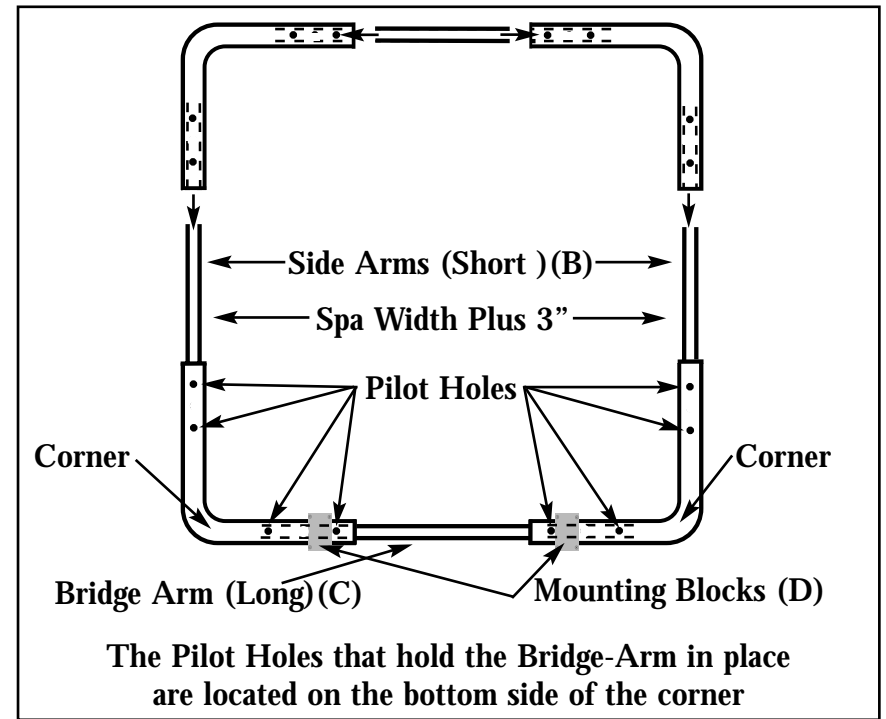

FIGURE 3
- 4) Slide the remaining bridge (long) arm (C) into the 2 long sides of the remaining corner pieces, as in Step 2. Now take the short sides of these 2 corner pieces and slide them over the 2 side (short) arm pieces (B) assembled in Step 3. Make sure that the pre-drilled holes in the short sides of the corner pieces are facing up on both sides of the spa. The E-Z Lifter should now have the basic rectangle or square shape (see Figure 3).
- 6) After ensuring your measurements are correct, secure all self tapping screws (F) through the pilot holes of the corner pieces (A) into the bridge-arms (C) and side arms (B). Attach the mounting blocks (D) to the base of the spa, ensuring that they lie between the pre-drilled pilot holes of the lower corner pieces (see Figure 3). The E-Z Lifter should now be in its final, rigid form.